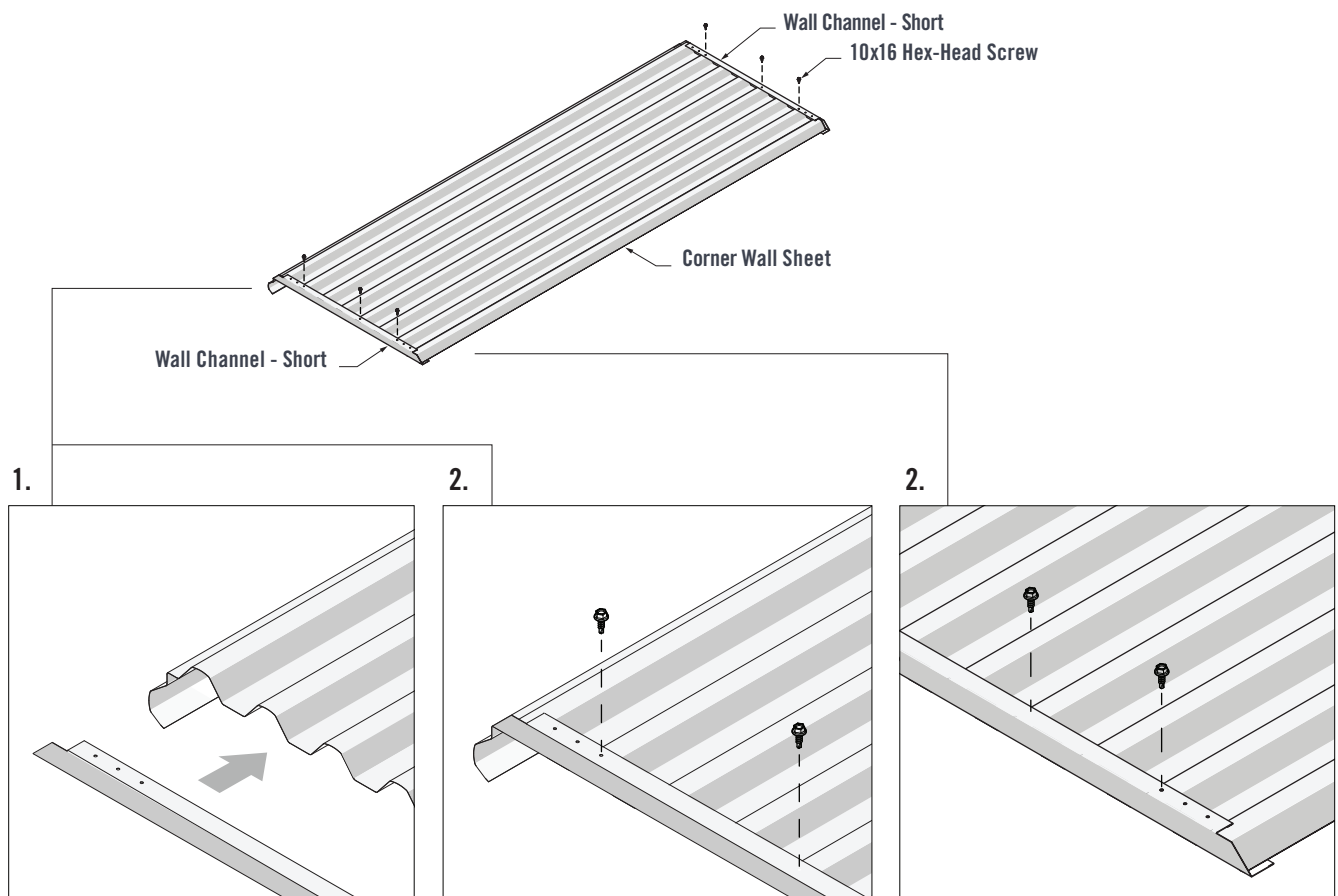

FIGURE 4.2
1. Fit the Wall Channel (Short) over the Corner Wall Sheet. The end of the Wall Channel should fit up against the end of the Corner Wall Sheet (Figure 4.2).
2. Fasten through the third pilot hole of both Wall Channel ends and into the Wall Sheet crests. Fasten through the Wall Channels and into the third Wall Sheet crest using one 10x16 Hex-Head Screw in each Wall Channel (Figure 4.2).